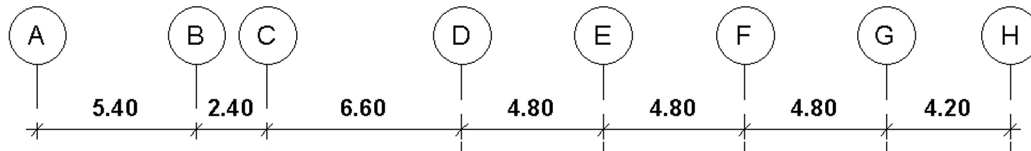

Fig. 1.19 – Vertical Grid Lines
2. Change its number (in the bubble) to A as shown in Fig. 1.19.